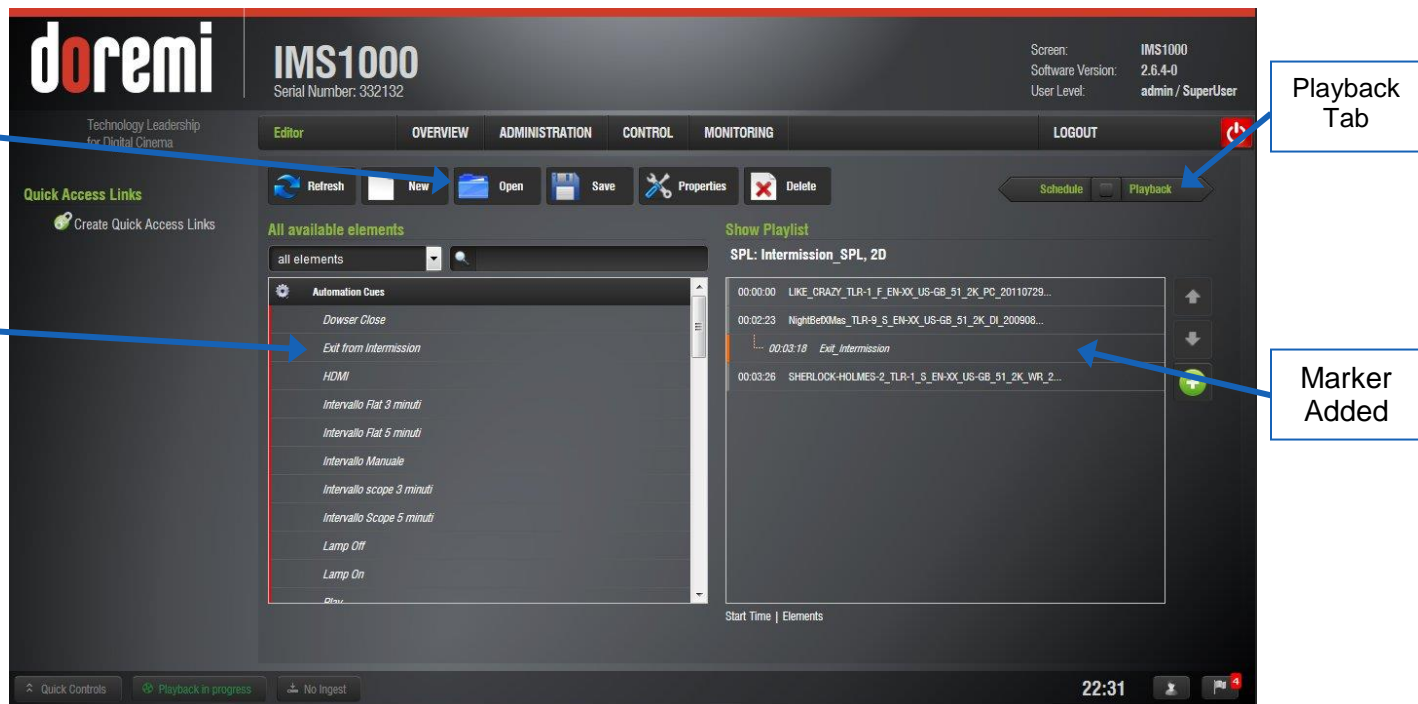

Figure 265: Marker Added
- The marker has now been added. During intermission, when the Exit from Intermission macro is triggered, playback will jump to the time code indicated by the marker (Figure 265).
- The user can manually execute the macro or they can add the macro to the Intermission SPL so that it is automatically executed at a specific time (Figure 265).